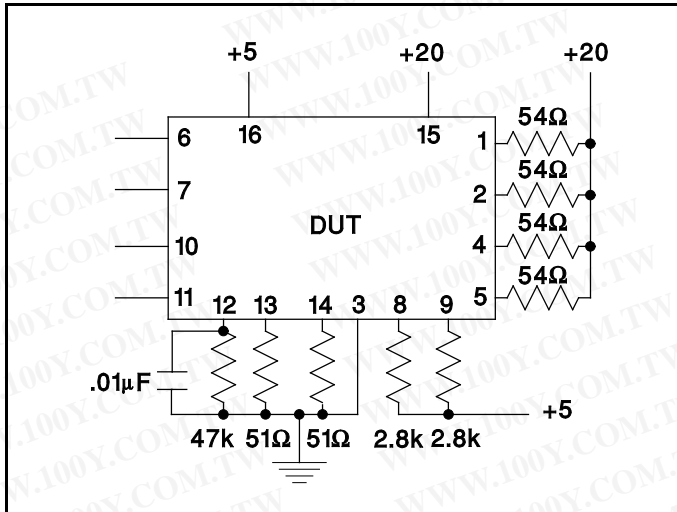

Figure 3. Test Circuit
RC: RC controls the timing functions of the monostables in the UC3517. It is normally connected to a resistor (RT) and a capacitor (CT) to ground, as shown in Figure 3. Monostable on time is determined by the formula $T_{ON} \approx 0.69 R_T C_T$. To keep the monostable on indefinitely, pull RC to Vcc through a 50k resistor. The UC3517 contains only one RC pin for two monostables. If step rates comparable to T_{ON} are commanded, incorrect pulsing can result, so consider maximum step rates when selecting RT and CT. Keep $T_{ON} \leq T_{STEP MAX}$.